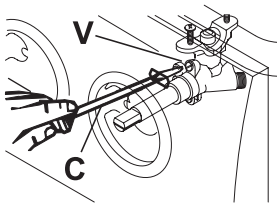

Fig. 4
- Remove the knob (A) of the tap which is attached by simply applying pressure to the rod.
- When the taps is equipped with flame failure device, the adjustment screw (V) is over (Fig. 4) or on the side of the stem (Fig. 5).